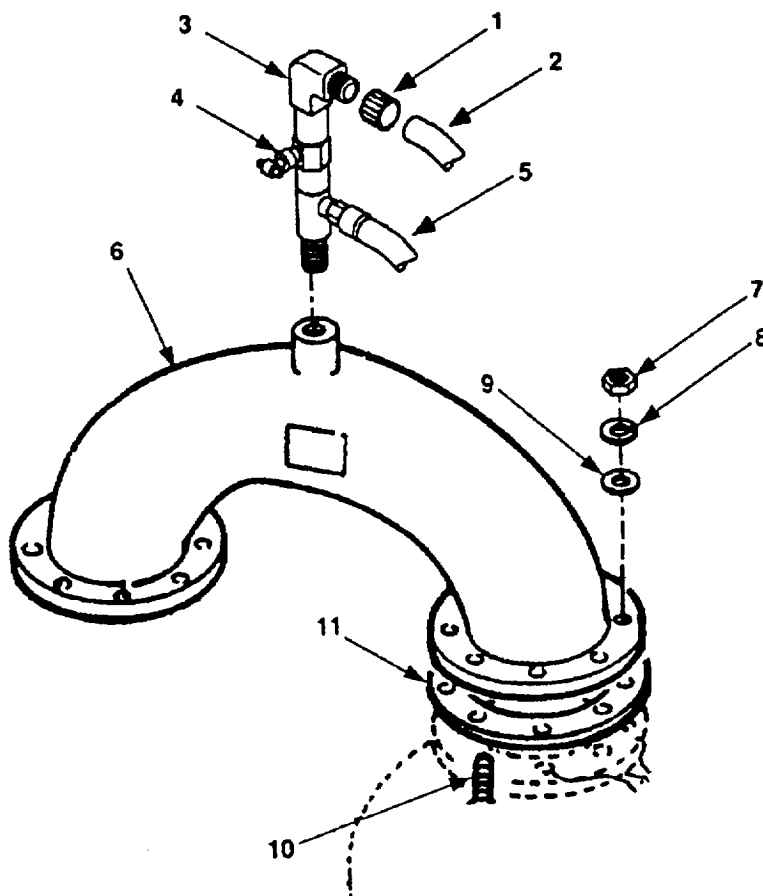

Figure 4-64. Discharge Connection Maintenance (All Except Model 350 PAFN).
- a. Loosen clamp (Figure 4-64, 1) and disconnect hose(2).
- b. Remove elbow (3) and vent valve (4).
- c. Disconnect discharge pressure hose(s) (5).
- d. Support discharge connection (6) and disconnect it from pump and control panel brackets by removing five nuts(7), lockwashers(8) and flat washers(9) from studs(10) on centrifugal pump.
- e. Carefully lift discharge connection (6) from studs on centrifugal pump.
- f. Remove and discard gasket (11).
- a. Install gasket (Figure 4-64, 11) onto studs (10) on centrifugal pump.